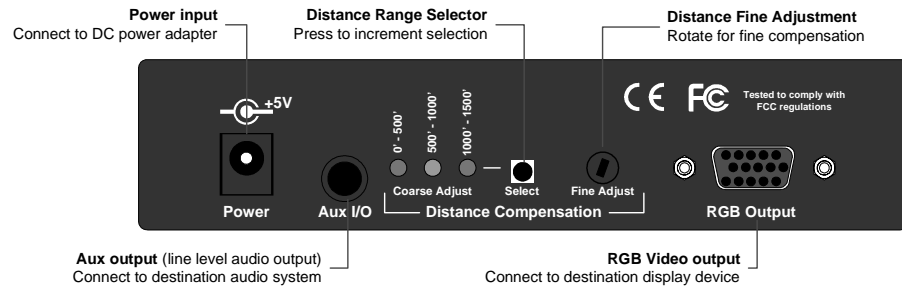

Figure 3-2. *XtendView* RXLG and RXLV Rear Panel Connections
2. Connect a standard 15 pin VGA cable to the RGB output connector (if you are using composite or S-Video signals use a VGA to BNC adapter cable) and connect the other end to your destination display (Figure 3-2).
4. Connect the 5 VDC output of the power adapter to the *XtendView* RXL power connector and connect the power adapter AC input to a reliable AC power source (Figure 3-2).
2. Rotate the “Fine Adjust” control (Figure 3-2) fully counterclockwise.